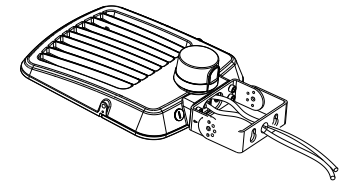

Figure 12
Step 2: Install the bracket on the fixture. (Figure 12)